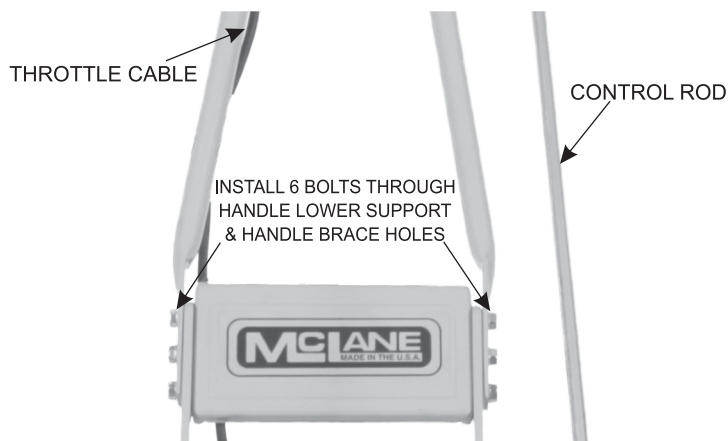

FIG. 1
1. Remove handle brace, nuts, and bolts. Align the handle, lower support, and handle brace holes. Use all six nuts and bolts. Leave bolts loose until Steps 2 and 3 completed (Fig. 1).
2. Install control rod into upper and lower pivot holes and secure with cotter pins (fig. 1). Oil pivots lightly before installing rod.